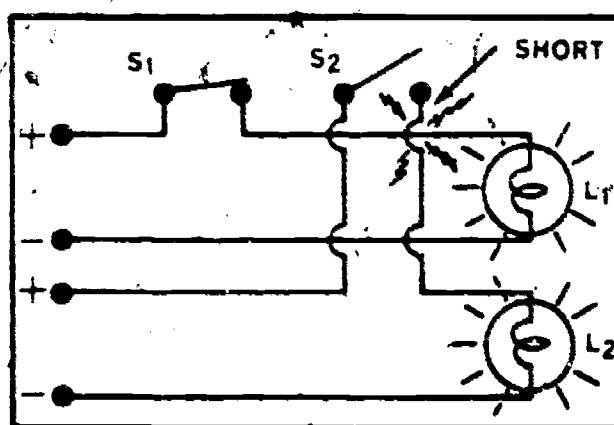

Figure 41. Positive to Positive Short
**Cross Short.** A cross short is contact between the positive leads of two independent circuits. (See figure 41.)
As you can see this short causes two independent units to operate from the same switch. In figure 41 even though S2 is open, L2 will burn. It burns because there is a complete path for current flow from the white wire through the lamp and to the black wire.